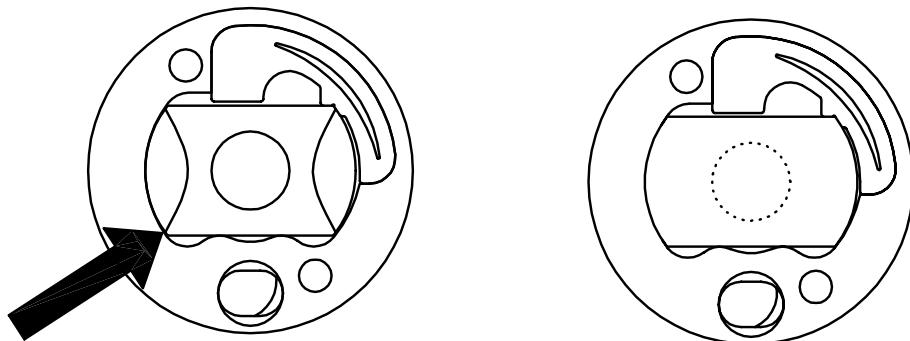

Figure 7.4 The prism and prism plate
11. To remove the prism (e), push it gently against the springs machined into the prism plate (f), as indicated by an arrow in Figure 7.4.
13. Put the prism (e) in place, pushing gently against the springs of the prism plate (f). The direction of the force is indicated in Figure 7.4, left. To make sure the prism is in correct position, press the prism in the opposite direction of the arrow.
14. Cover the prism by a new prism gasket (d) (with the center hole uncut), Figure 7.4, right.
21. Clean the window of the CCD element. Attach the CCD card (L) to the core module (S) by the three spacer screws.
22. Attach the sensor processor card (E) with the three hexagon socket screws. Connect the ribbon cable (H), the LED connector, and the temperature element screw terminal.
24. Connect the cable from the Sensor processor card (E) to the the Bus terminator card (F).
25. Close the sensor cover (D).
26. Place the sensor on a table with the prism upwards. Use a sharp knife to cut away the circular piece of the gasket (d) covering the prism surface, see Figure 7.4. Support the knife on the prism surface only, as the knife may scratch the steel.